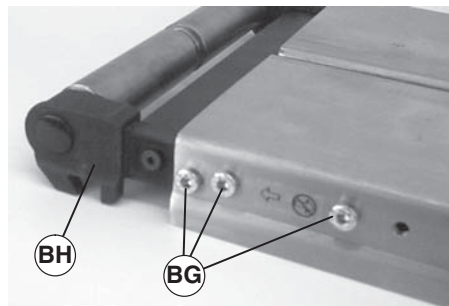

Figure 31
3. Remove screw (BE) on drive shaft side of conveyor.
4. Remove three (3) screws (Figure 31, item BG) on side opposite of drive shaft.
5. Remove drive spindle assembly (BH).